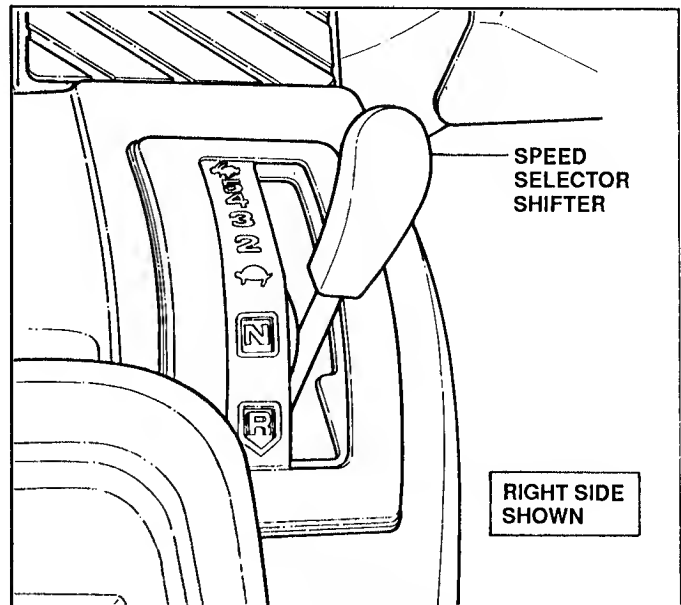

FIGURE 6
1. With CLUTCH/BRAKE pedal depressed, shift SPEED SELECTOR to **1** for forward or **R** for reverse and release pedal. (For comfort and safety, always shift back to **1** before starting forward). See Figure 6.